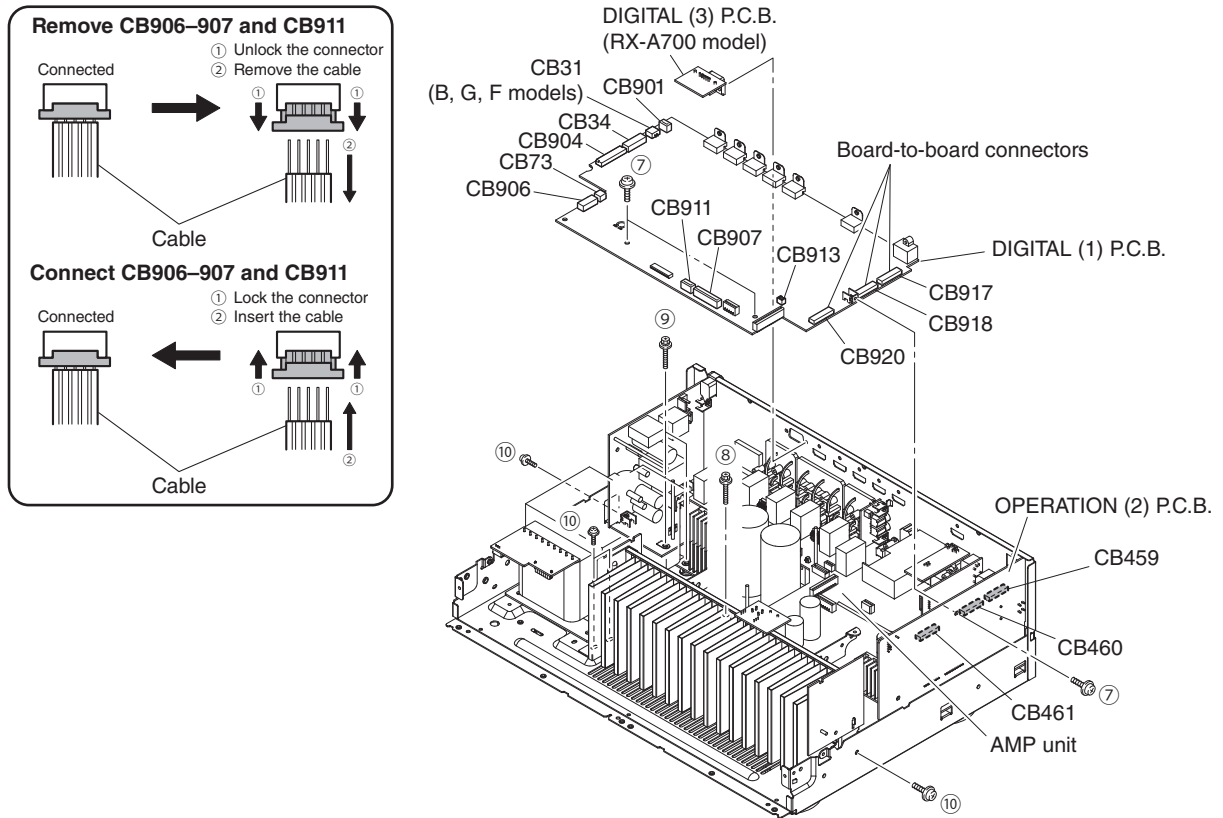

Fig. 2
- b. Remove CB901 and remove the DIGITAL (3) P.C.B. (Fig. 2)
4. Removal of DIGITAL (1) P.C.B.
- b. Remove 3 screws. (⑦). (Fig. 2)
- c. Remove CB34, CB73, CB904, CB913 and CB31 (B, G, F models). (Fig. 2)
- d. Unlock and remove CB906-907 and CB911. (Fig. 2)
- e. Remove the DIGITAL P.C.B. which is connected directly to the OPERATION (2) P.C.B. with board-to-board connectors. (Fig. 2)
- a. Remove screw (⑧), 2 screws (⑨) and 4 screws (⑩). (Fig. 2)
- c. Remove the amp unit. (Fig. 2)
- c. Remove screw (⑧), 2 screws (⑨) and 5 screws (⑩). (Fig. 2)